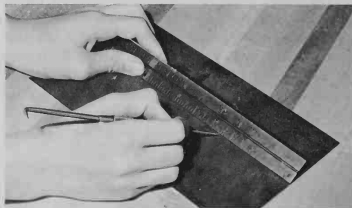

Fig. 4-12. Measuring length of stock. Mark length accurately with a scribe.
2. Measure the stock for required length by placing a rule parallel to the edge of the stock. Check the end of the rule to be sure it is even with the square end of the stock. Make a short mark in line with the unit on the rule that represents the correct length, Fig. 4-12.